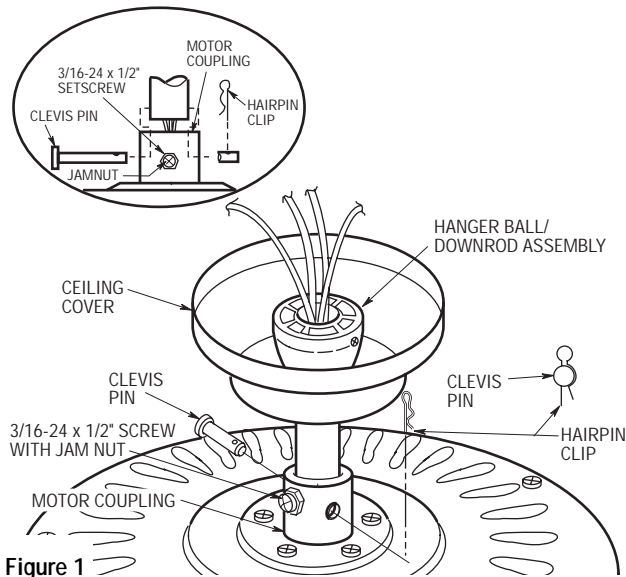

Figure 1
1. Pass the 80" motor leads through the opening in the ceiling cover. Be sure the cover is oriented correctly (Figure 1).
3. Align the clevis pin holes in the downrod with the holes in the motor coupling. Install the clevis pin and secure with the hairpin clip (Figure 1). The clevis pin must go through the holes in the motor coupling and the holes in the downrod. Be sure to push the straight leg of the hairpin clip through the hole near the end of the clevis pin until the curved portion of the hairpin clip snaps around the clevis pin. The hairpin clip must be properly installed to prevent the clevis pin from working loose. Pull on the hanger ball to make sure the clevis pin is properly installed.
4. Back off the jam nut until it rests loosely against the setscrew head. Install the setscrew in the motor coupling (Figure 1) and tighten securely while pulling up on the downrod. Using a 5/16-inch open end wrench or pliers, tighten the jam nut securely against the motor coupling.